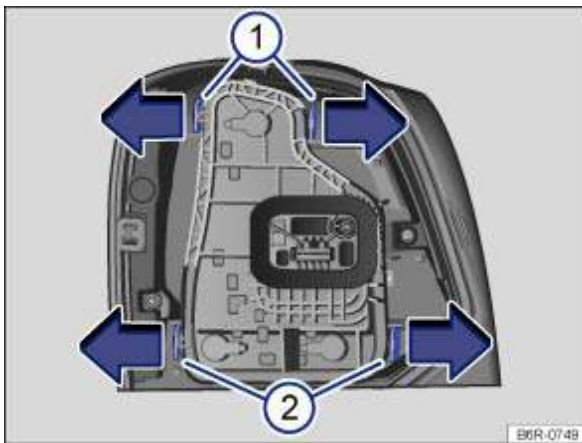

Fig. 218 Tail light cluster: removing the bulb holder
8.	To release the bulb holder, push the tabs → Fig. 218 ① and ② in the direction of the arrows.